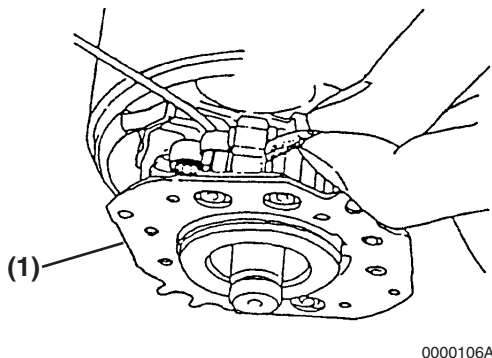

Figure 11-5
- Pull the brush springs up using a brush spring puller. On the negative (-) side, bring the brush spring into contact with the side of the brush for lifting from the commutator surface. On the positive (+) side, remove the brush from the brush holder assembly (**Figure 11-5, (1)**).